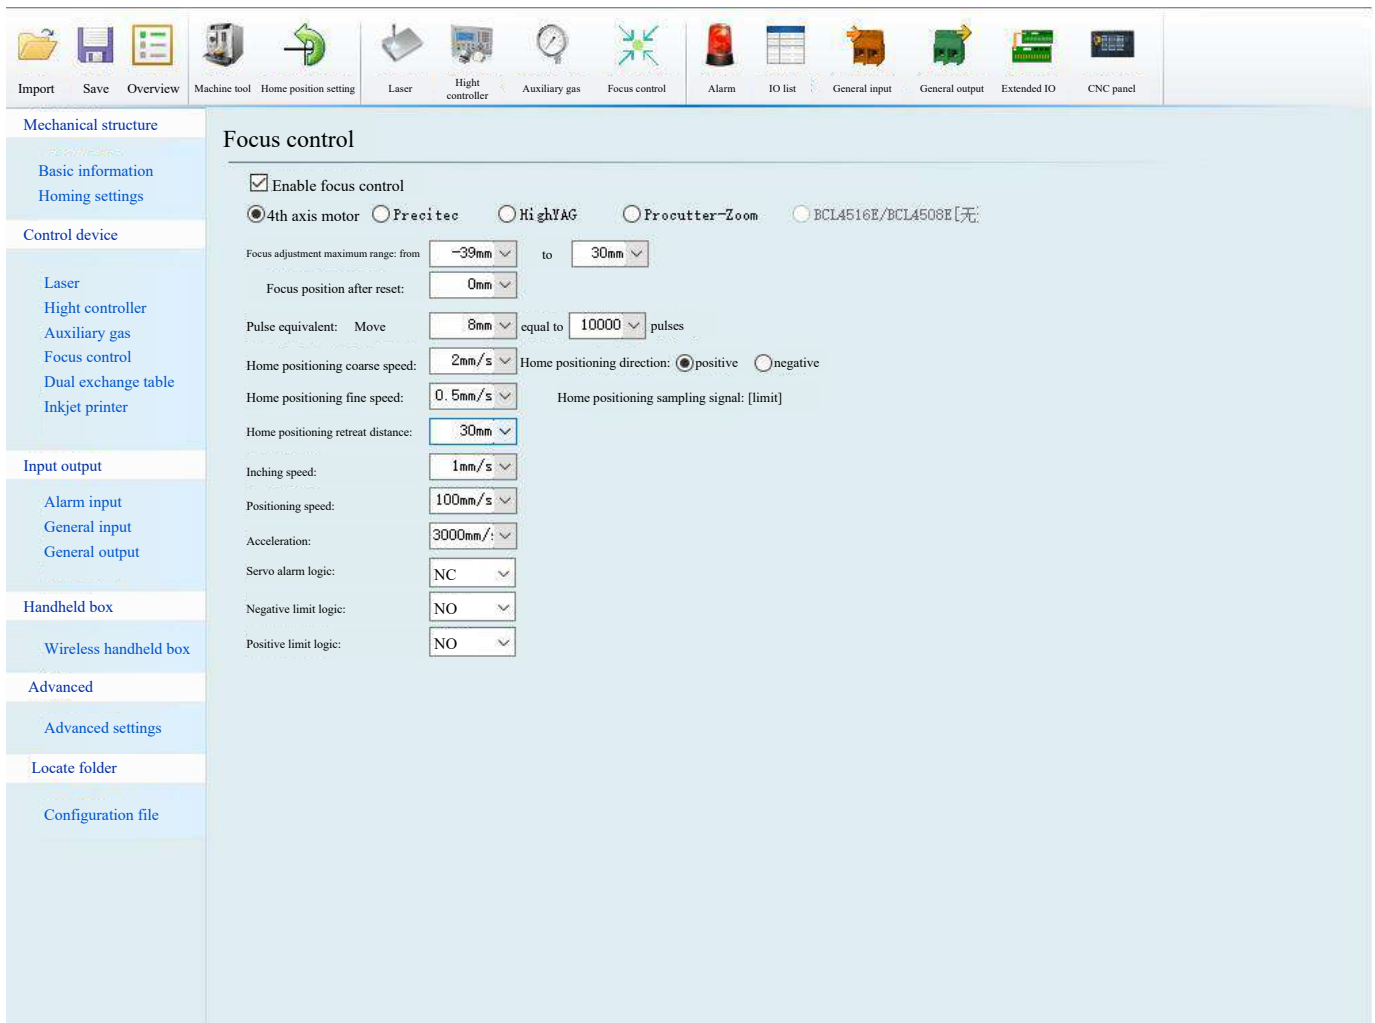

Figure 2.3
① Open the software configuration platform, set the focus retraction distance to 30mm (can be slightly adjusted according to the actual conditions), to align the collimation focus at the zero scale position (as shown in Cypcut, Figure 2.3).